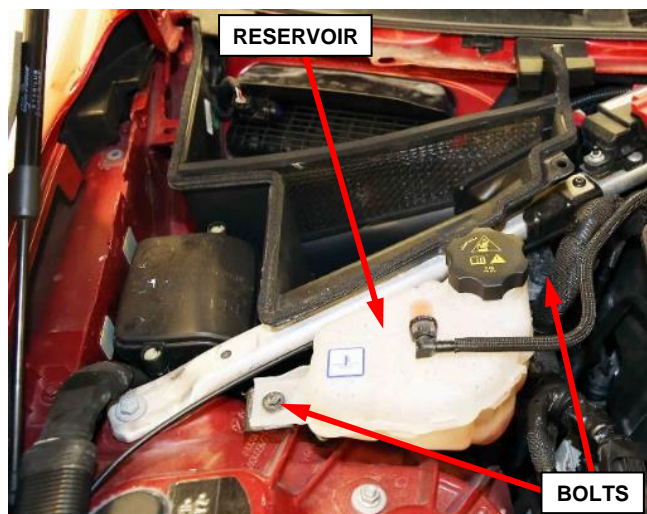

Figure 24 – Engine Coolant Reservoir
29. Remove the bolts and disengage the base of the engine coolant reservoir from the rubber retaining mount. Do not disconnect the pipes, position the engine coolant reservoir out of the way (Figure 24).